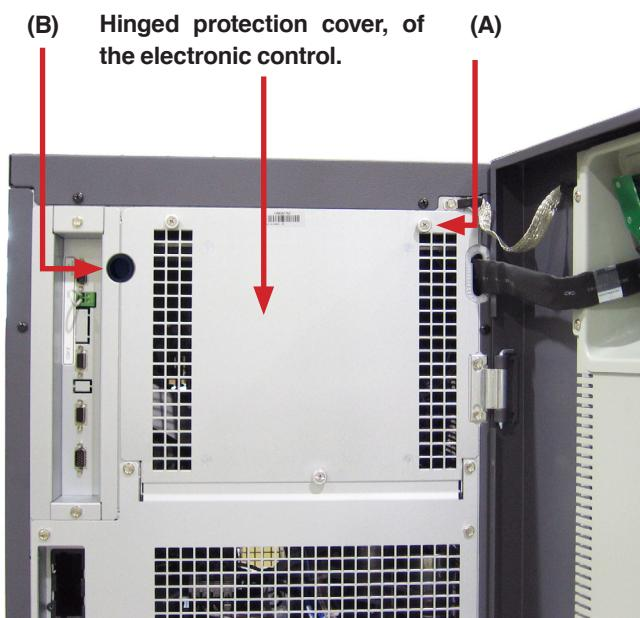

Fig. 1. UPS front view with open door.
- To release the three locks (A), loosen in counter-clockwise till unblocking them (see Fig. 1).